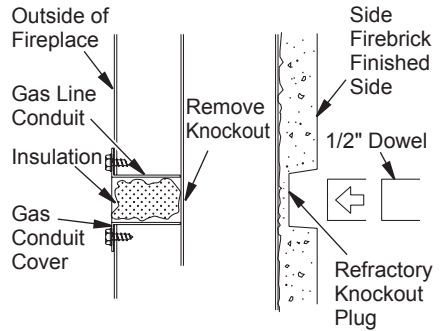

Figure 18 - Gas Line Knockout
1. Remove knockout indentation on refractory or firebrick wall located above the refractory hearth floor. The knockout indentation must be firmly tapped with any solid object such as a 1/2" dowel until it is released. Remove fragmented portions of refractory (see Figure 18, page 13).